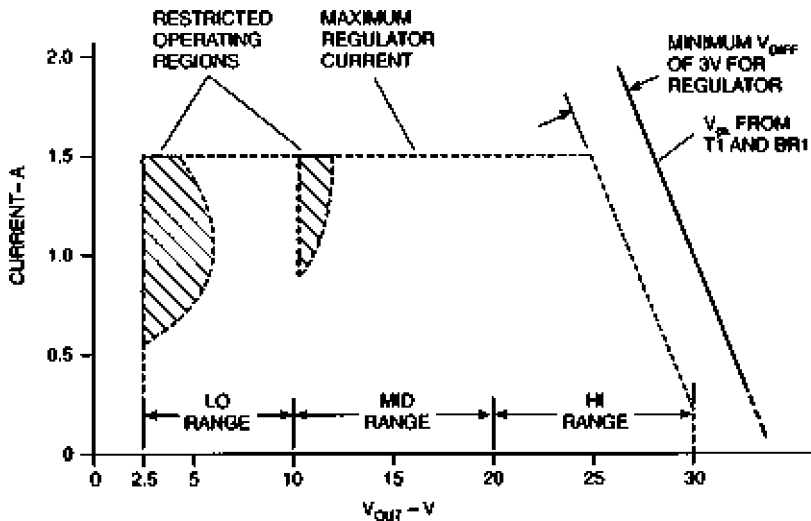

Figure 4-10. Operating Regions for Adjustable Power Supply
Because of the high power dissipation in this supply at the current extremes, the regulator and TO-220 heat sink are mounted to the back of the enclosure. The regulator is insulated from the heat sink. This provides maximum heat sink area for thermal protection. However, if the supply is operated continuously at voltage and current conditions near the maximum boundaries indicated in Figure 4-10, a fan should be directed to blow over the back of the enclosure as an added precaution to protect the regulator.
As shown in Figure 4-10, there are regions within the operating voltage ranges where the maximum power dissipation of the LM317 (15W @  $T_c=25-90^\circ\text{C}$ ) is being exceeded. The power supply should not be operated within these regions. Other operating restrictions also are shown:
21. Connect a voltmeter to the output and test the supply using various values of power resistors. *Table 4-4* lists various voltage and power resistor combinations to test the supply at various load currents. Refer again to *Figure 4-10* to make sure the power supply is operating only in the permissible region. The regulation should be typically 0.5% over the operating region.